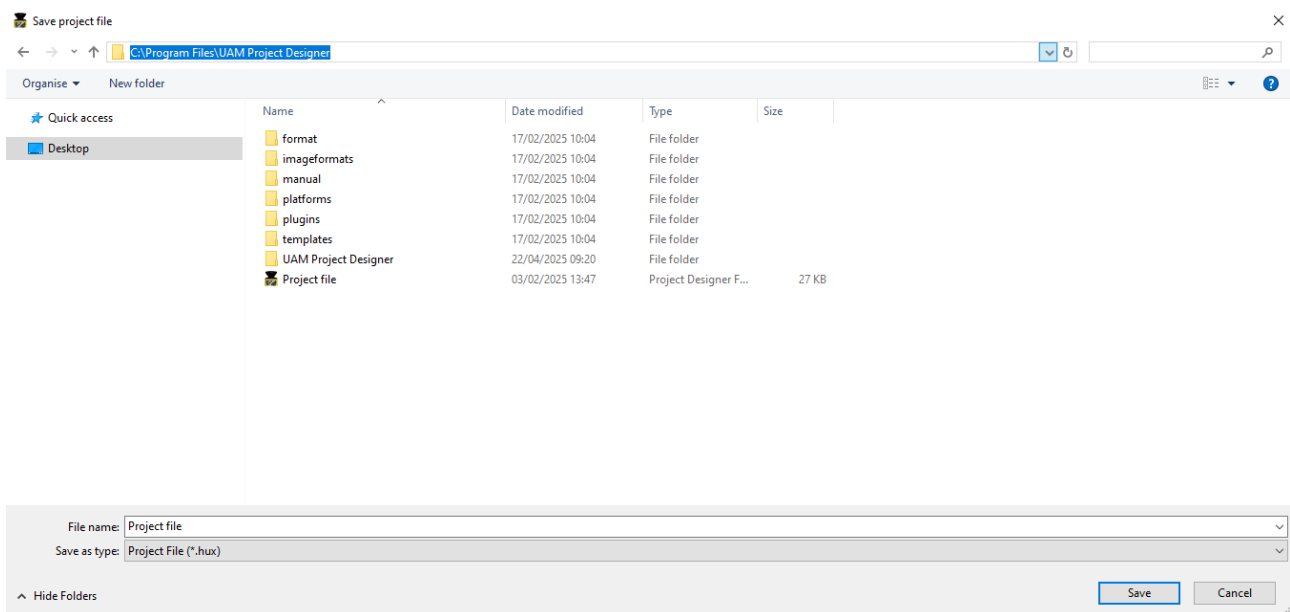

Figure 7-44 Save project file
- c) Enter a file name and click Save button. Change the location of the file if necessary. (Figure 7-44)